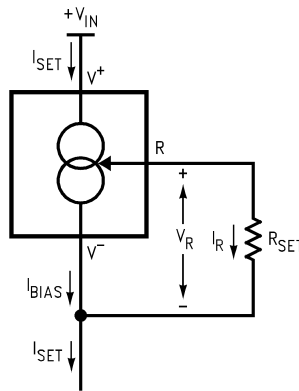

Figure 13. Basic Current Source
- (1) Unless otherwise specified, tests are performed at $T_J = 25^\circ C$ with pulse testing so that junction temperature does not change during test
- (2) Set current is the current flowing into the V^+ pin. For the Basic 2-Terminal Current Source circuit shown in Figure 13, I_{SET} is determined by the following formula: $I_{SET} = 67.7 \text{ mV}/R_{SET}$ (@ $25^\circ C$). Set current error is expressed as a percent deviation from this amount. I_{SET} increases at $0.336\%/^\circ C$ @ $T_J = 25^\circ C$ ($227 \mu V/^\circ C$).
- (3) I_{SET} is directly proportional to absolute temperature ($^\circ K$). I_{SET} at any temperature can be calculated from: $I_{SET} = I_o (T/T_o)$ where I_o is I_{SET} measured at T_o ($^\circ K$).
The total current through the LM134 (I_{SET}) is the sum of the current going through the SET resistor (I_R) and the LM134's bias current (I_{BIAS}), as shown in Figure 13.